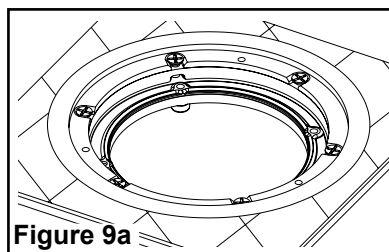

Figure 9a
Step 19 – Place gasket on body with rib facing up, aligning holes, ensuring gasket lays flat with no wrinkles. See **Figure 9a, 9b, and 9c**.